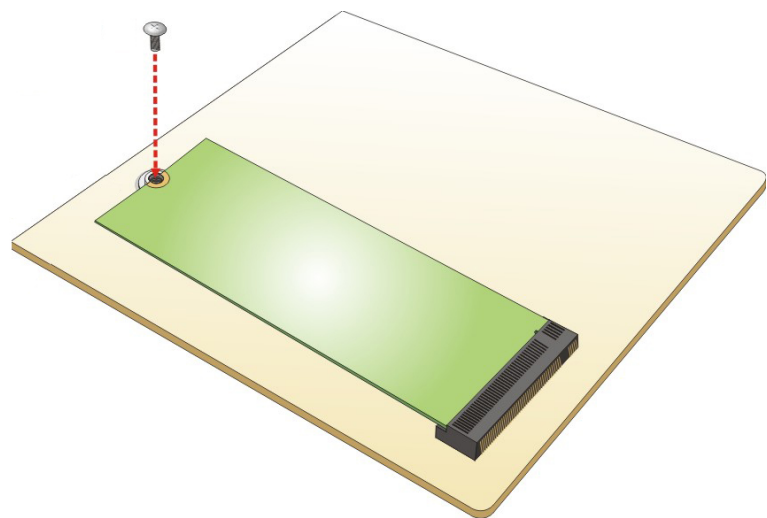

Figure 4-10: Securing the M.2 Module
Step 4: Push the M.2 module down and secure it with the previously removed retention screw (**Figure 4-10**).